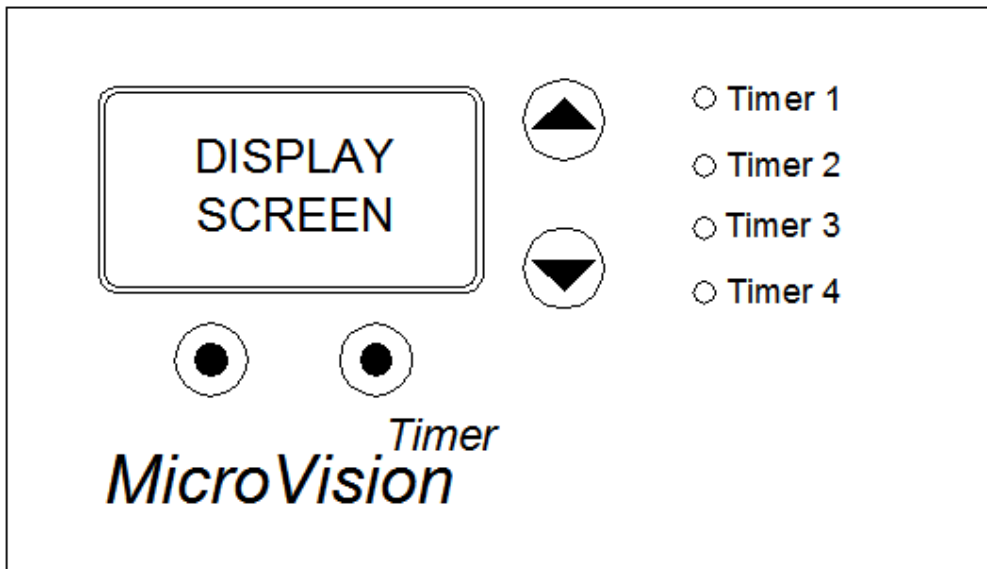

Fig. 6
The MicroVision electronic input circuitry is fuse protected on both the hot and neutral inputs using a replaceable five (5) amp fuse (Fig. 6). For additional protection of your instrument, use of a surge protector is recommended.
Connect your water meter, or drum level switch to **J10** (Fig. 6). They are labeled as, **Input 2, 3, and 4**. These are active closed: closed = low level; open = level is OK.